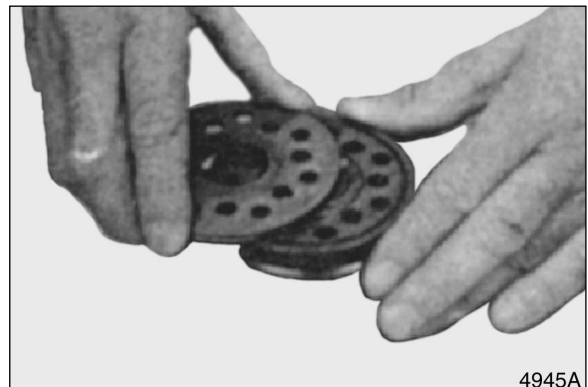

Figure 15
- Remove distributor plate from housing. See Figure 15.